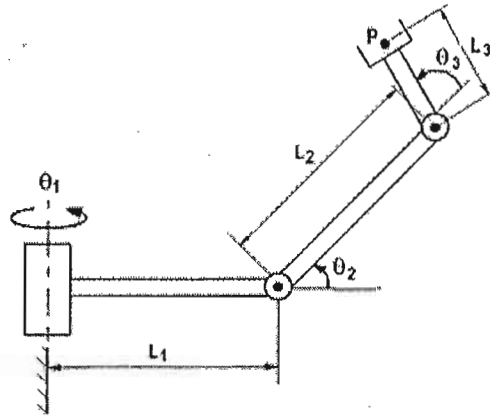

Fig. Q2
2. A 3-DOF robotic manipulator is shown in Fig. Q2. The point P on its end-effector is required to reach the coordinates of (20, 30, 40). If  $L_1 = 50$ ,  $L_2 = 60$  and  $L_3 = 30$  determine the angles  $\theta_1$ ,  $\theta_2$  and  $\theta_3$  through which the joints should be rotated for achieving that position of P. 20